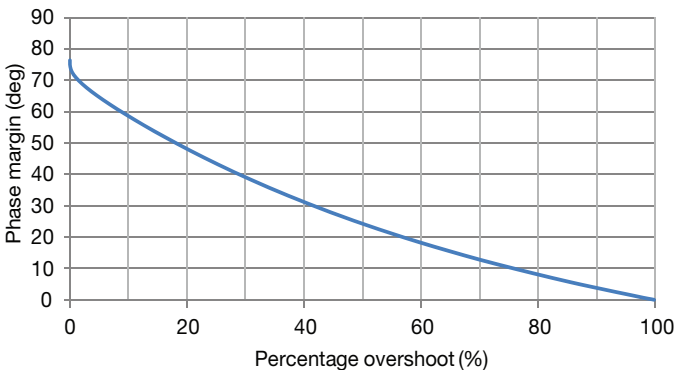

Figure 47: Stability – phase margin vs. percentage overshoot
Figure 47 shows the exception to the rule (multiple feedback).
- Use percentage overshoot to determine phase margin using Figure 47